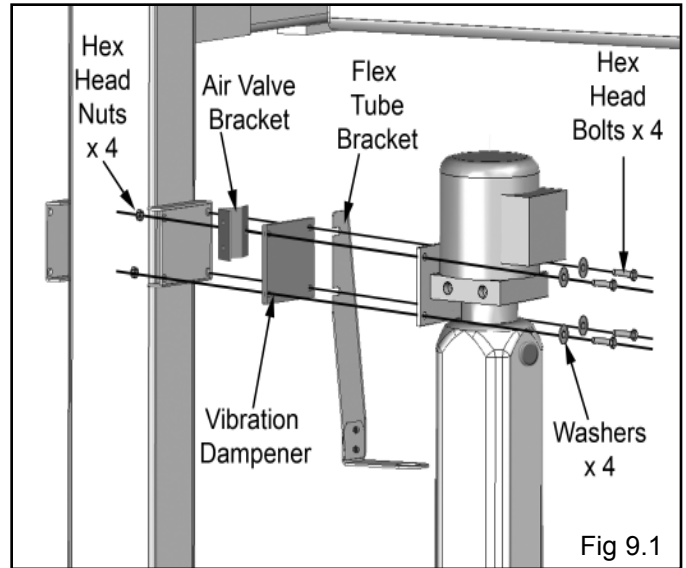

Fig 9.1
1. Mount the Power Unit, the Flex Tube Mounting Bracket, the Vibration Dampener and the Air Valve Mounting Bracket to the Power Unit Mounting Bracket using the M8 hex bolts and nylon nuts. (See Fig. 9.1)